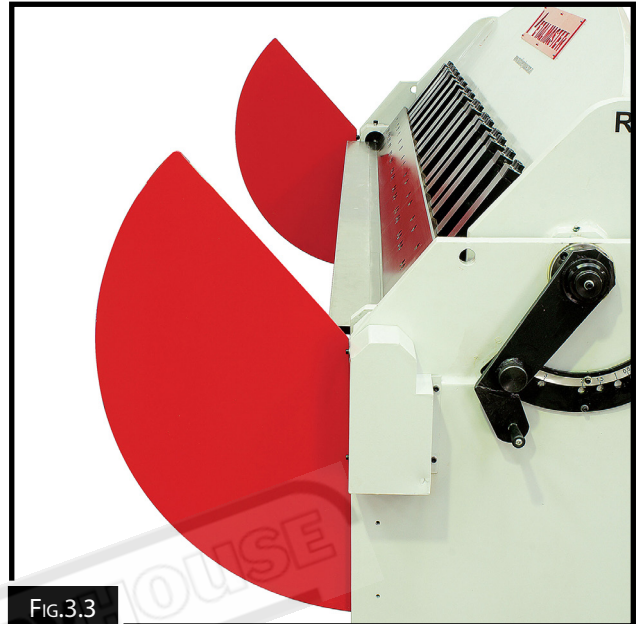

FIG.3.3
- ☐ Bolt on the apron safety guards (Fig 3.3)